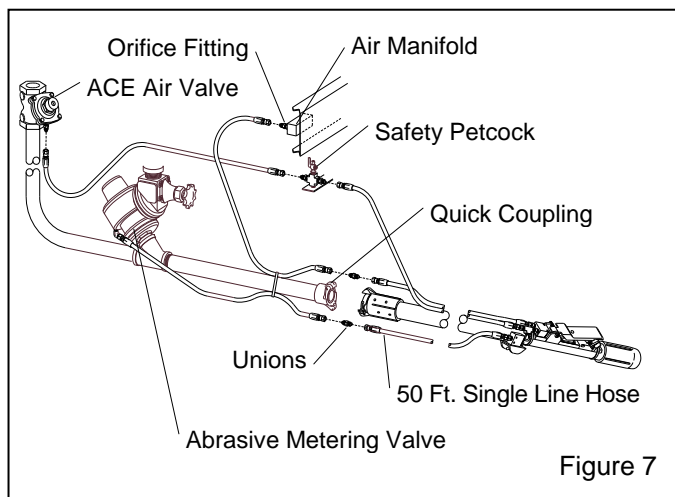

Figure 7
2.3.3 INSTALL BLAST HOSE and CONTROL HOSE to BLAST MACHINE, Refer to Figure 7
2.3.3.2 Connect two hose unions to the fittings on the control hoses strapped to the piping behind the quick coupling. Refer to Figure 7.
2.3.3.5 Attach the remaining side of the 50-ft. twinline to the outward fitting on the safety petcock, as shown in Figure 7.